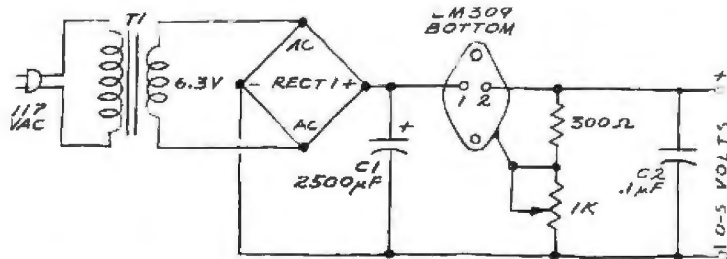
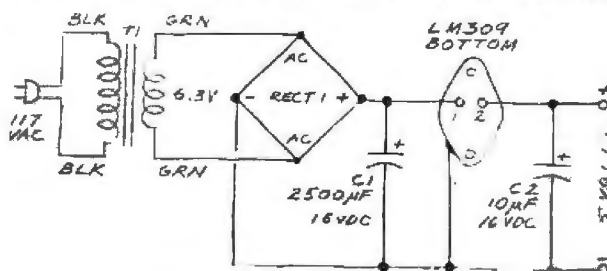

Fig. 2. Five-volt TTL power supply.
Fig. 3. Variable 0-5-volt power supply.
Figure 2 shows how to use the LM309 in a simple TTL 5-volt power supply. Transformer *T1* is a 6.3-volt filament transformer which reduces the line voltage to a practical level and provides line isolation. Modular bridge rectifier *RECT1* converts alternating current into pulsating direct current. Any 60-to-200-PIV bridge, such as Radio Shack 276-1147 can be used. Capacitor *C1* filters the rectifier output into a reasonably ripple-free voltage which is applied to the input of the regulator IC. The regulated voltage appearing at the IC's output pin is 5.05 volts plus or minus 0.2 volt.
**Variable-Voltage Supply.** You can convert the fixed 5-volt supply in Fig. 2 to a variable 0-to-5-volt supply by adding a voltage divider as shown in Fig. 3. The result is handy for experimenting with LED's and other low-voltage components and circuits.